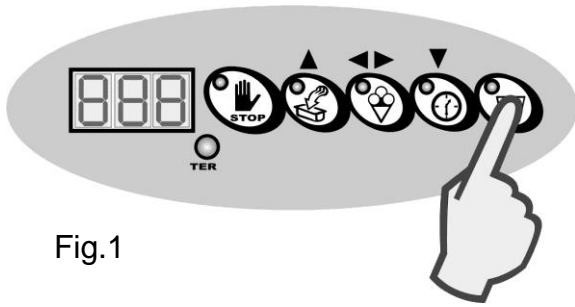

Fig.1
- With the cycle in progress, press the SLUSH key once. (fig. 1)